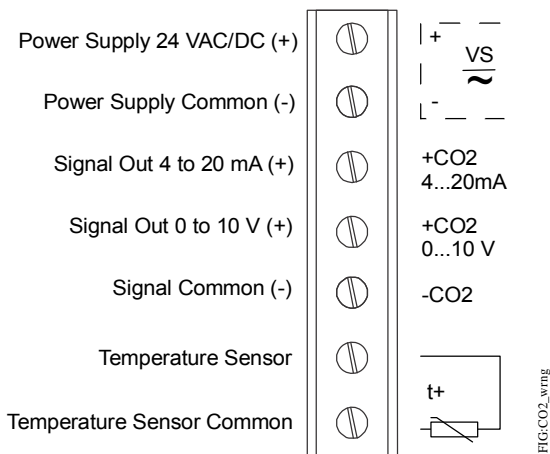

Figure 4: Screw Terminals
- Connect the wires to the mounting base screw terminals as shown in Figure 4.